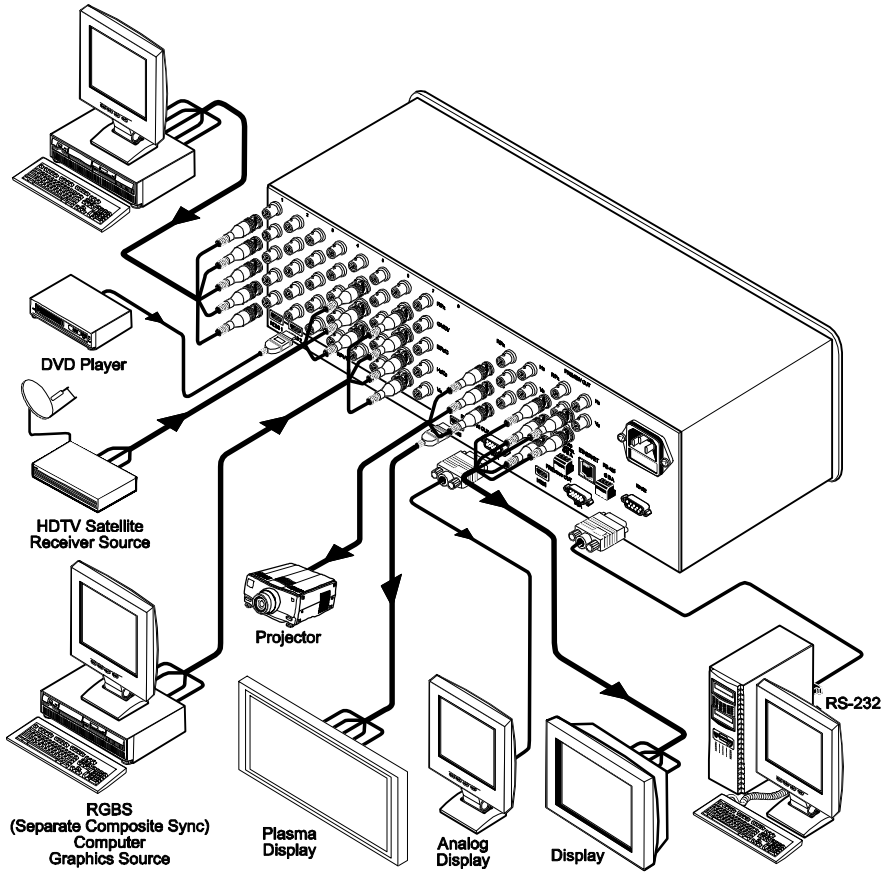
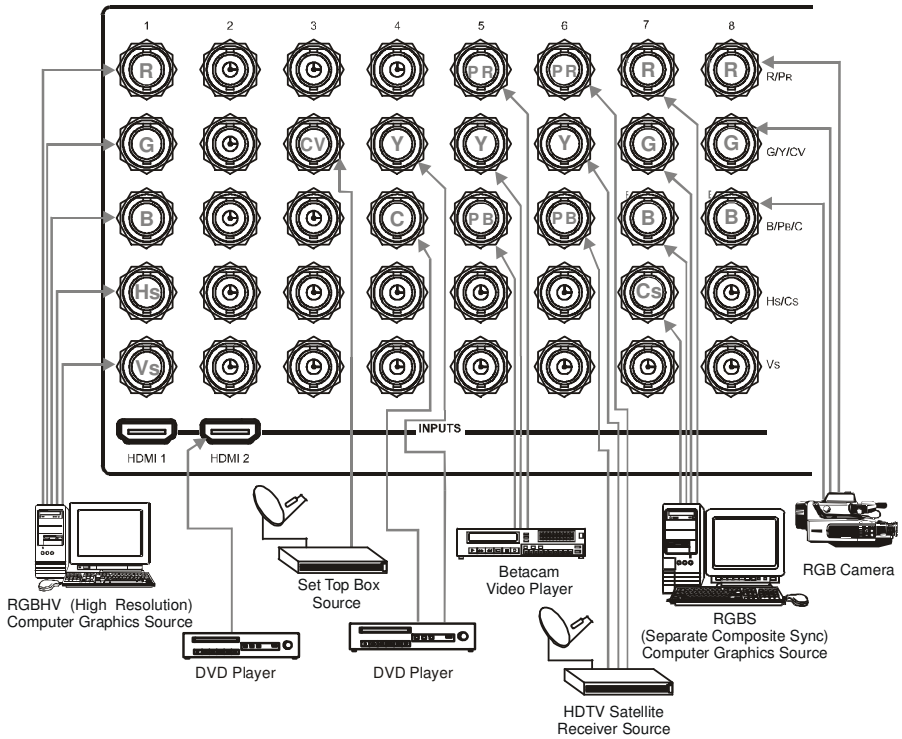
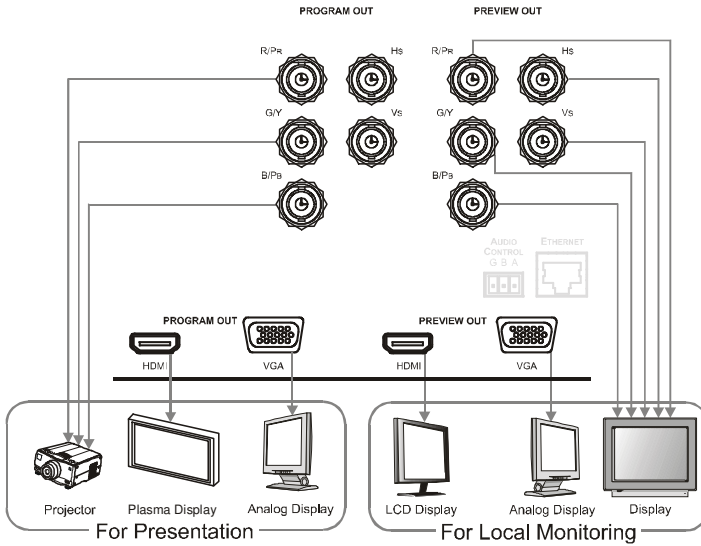

Figure 3: Connecting the VP-727xl
Figure 4: Connecting the INPUTS (an example)
Figure 5: Connecting the PREVIEW OUT / PROGRAM OUT Connectors
The **VP-727xl** is a universal presentation matrix switcher / scaler that lets you choose what sources to connect to the inputs. For example, you can connect just four sources: an RGBHV source, an HDMI source, an HDTV source and an RGBS source (as the example in Figure 3 shows).
To connect¹ the **VP-727xl** as illustrated in the example in Figure 3, do the following:
Figure 4 shows an example of how to connect¹ 8 sources to the rear panel of the **VP-727xl**: an RGBHV source, an HDMI source, a CV source, a Y/C source, a component video source, an HDTV source, an RGBCs source and an RGB source.
To connect² the **VP-727xl**, as illustrated in the example in Figure 4, do the following³:
1. Connect the following video sources² (see Figure 4):
¹ Figure 4 and Figure 5 show how to connect several sources, and the PREVIEW/PROGRAM OUT connectors, respectively
2. Connect the PROGRAM OUT (see Figure 5):
3. Connect the PREVIEW OUT (see Figure 5):
The **VP-727xl** is a **universal** presentation matrix switcher / scaler: you choose what type of source to connect to each input. You can connect different video types or the same or similar video types. See the examples in Figure 3 and Figure 4 in section 6.